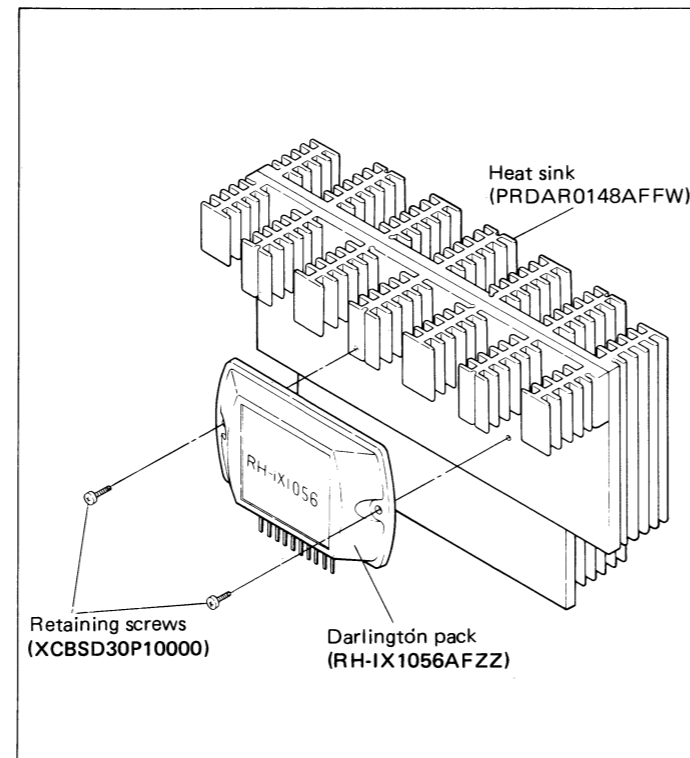

Figure 18
**REPLACEMENT OF DARLINGTON PACK (IC 401 and IC 402) (Refer to Figure 18)**